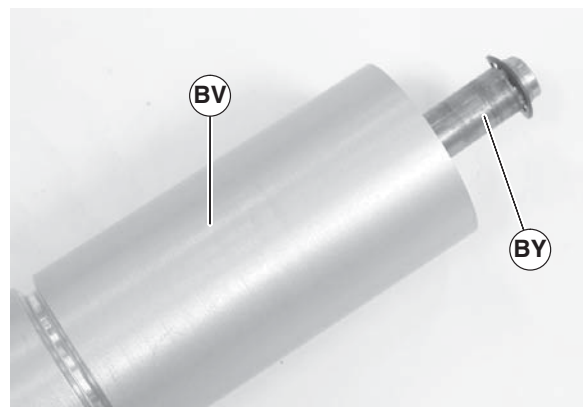

Figure 75
7. Slide the shaft assembly (Figure 75, item BY) out of the pulley (BV).